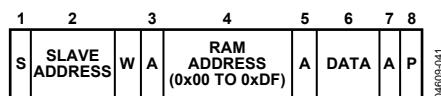

Figure 41. Single Byte Write to the RAM
- To write a single byte of data to the RAM. In this case, the command byte is RAM Address 0x00 to RAM Address 0xDF, and the only data byte is the actual data, as shown in Figure 41.